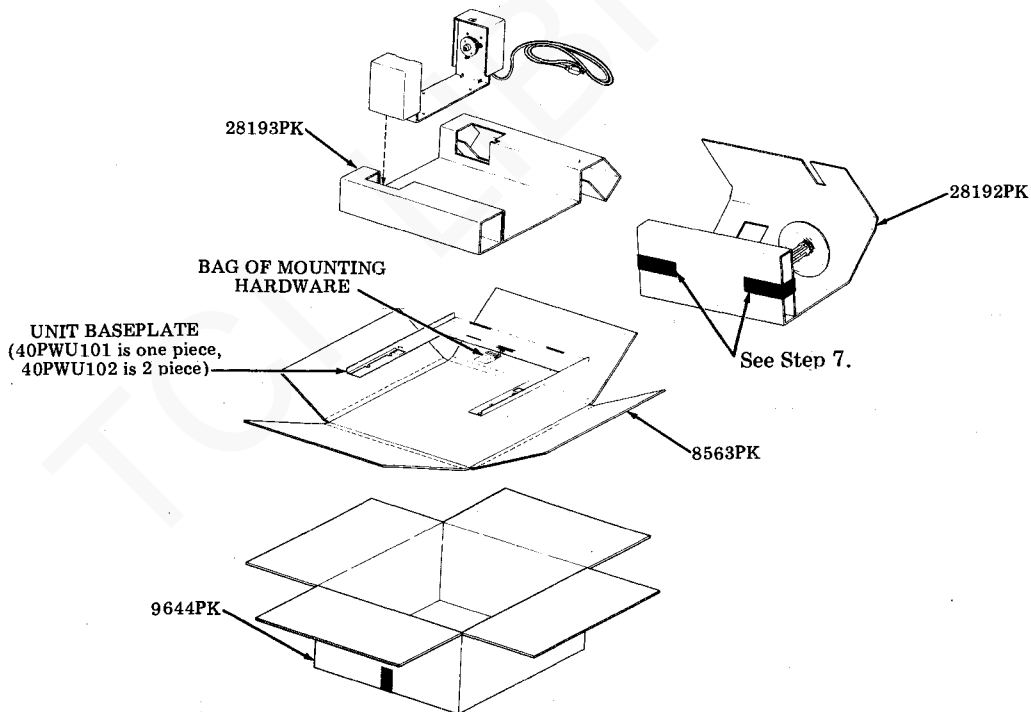

Fig. 71
- Step 1. Place loose parts in 652472RM cloth bag. Close bag and tie to hole in base plate as illustrated in Fig. 71.
- Step 5. Place folder in container. Form 28193PK detail and place in container as illustrated in Fig. 71.
- Step 7. Form 28192PK detail. Position reel in detail. Secure flaps of detail in position (as shown in Fig. 71) with four strips of reinforced pressure sensitive tape.